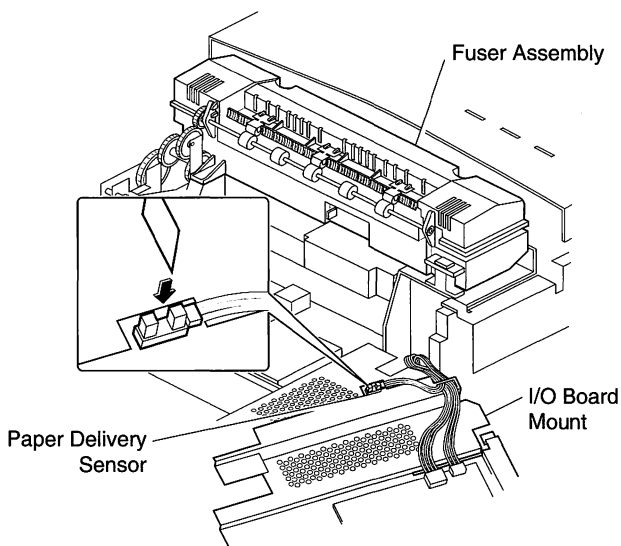

Figure 40. Actuating the Paper Delivery Sensor
2. Remove the I/O board mount and set it at an angle on top of the power supply, as shown in Figure 40.
3. Insert a folded piece of paper into the U of the paper delivery sensor (see Figure 40 inset) in order to manually actuate the sensor and put the printer in a ready state.